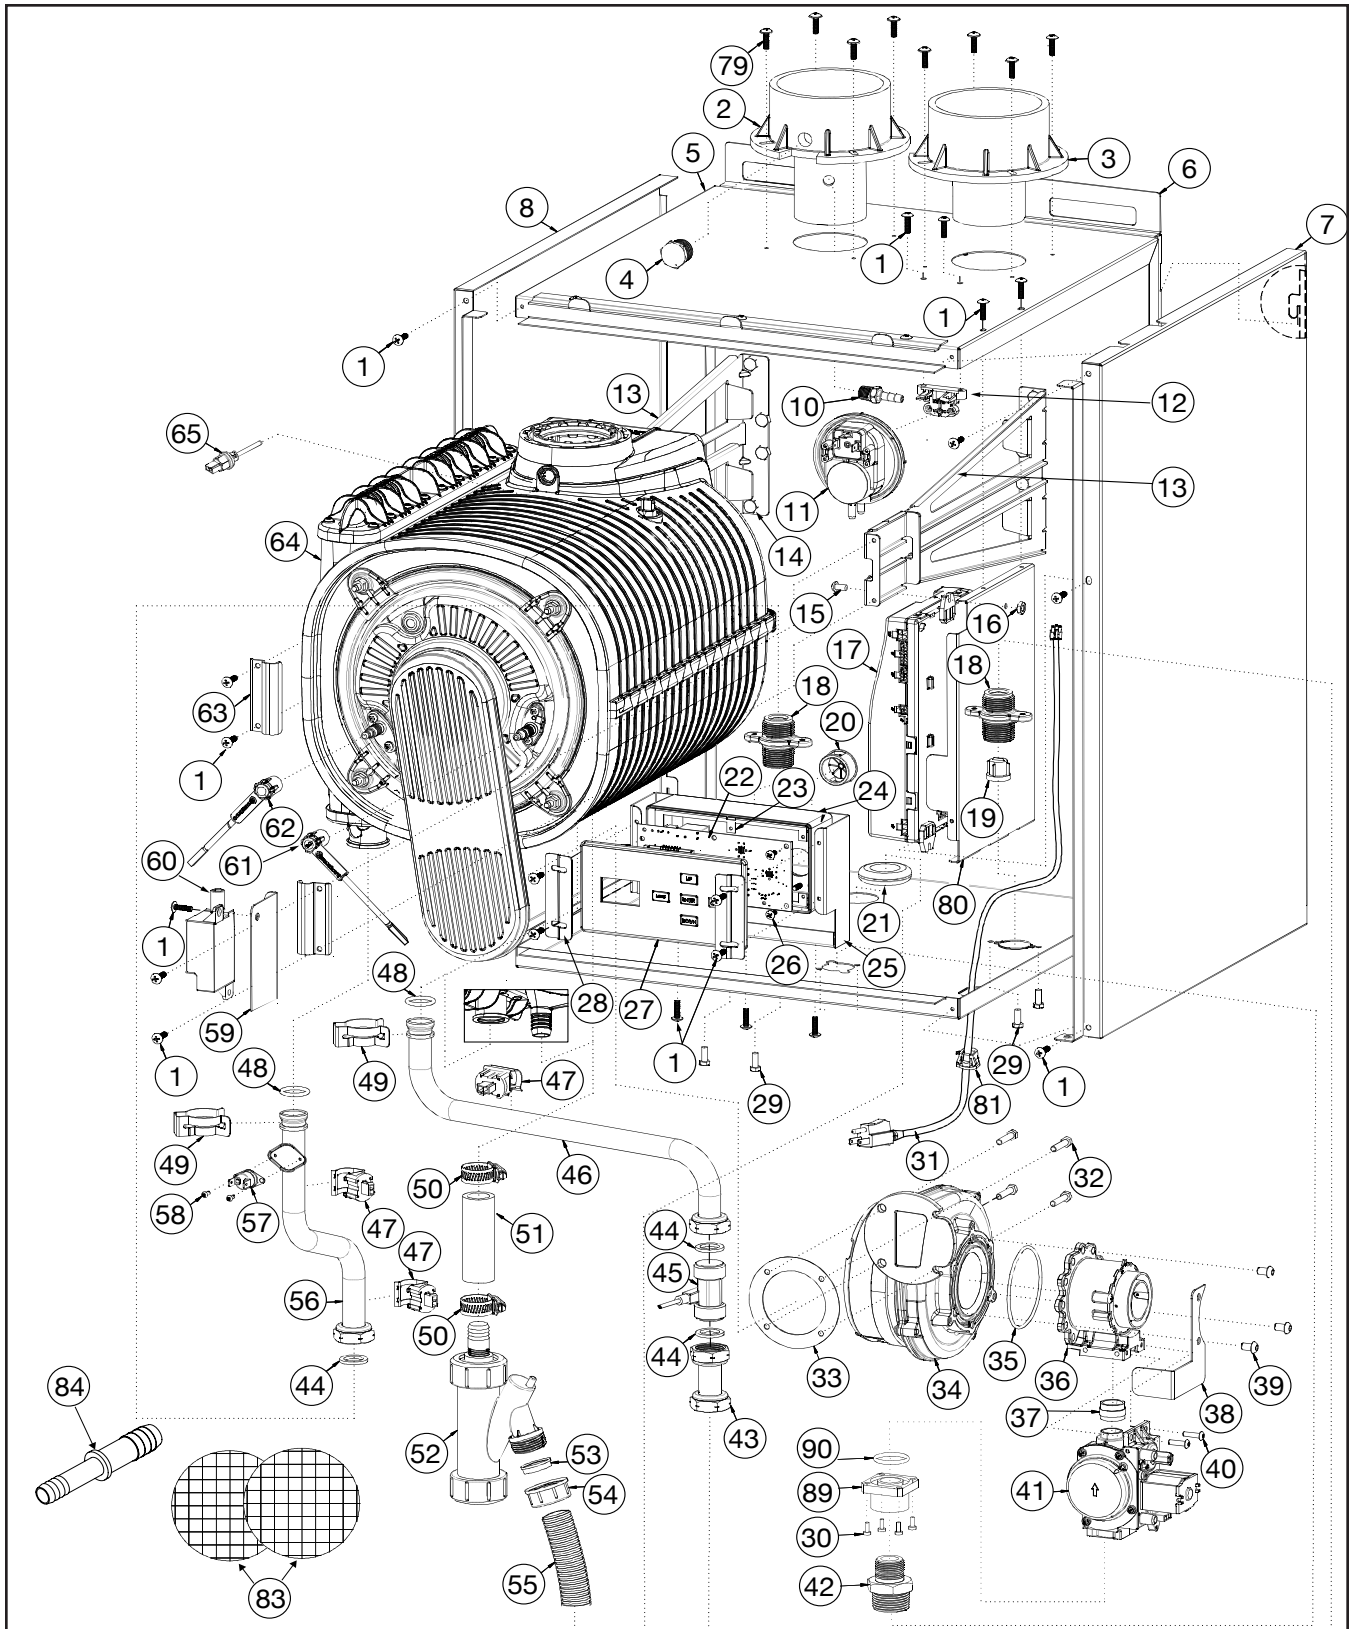

Figure 8.1 Cabinet and interior parts
## Parts List For Figures 8.1, 8.2, 8.3, 8.4, 8.5 & 8.6
## Parts List For Figures 8.1, 8.2, 8.3,8.4, 8.5 & 8.6 (continued)
**Parts List For Figures 8.1, 8.2, 8.3, 8.4, 8.5 & 8.6 (continued)**